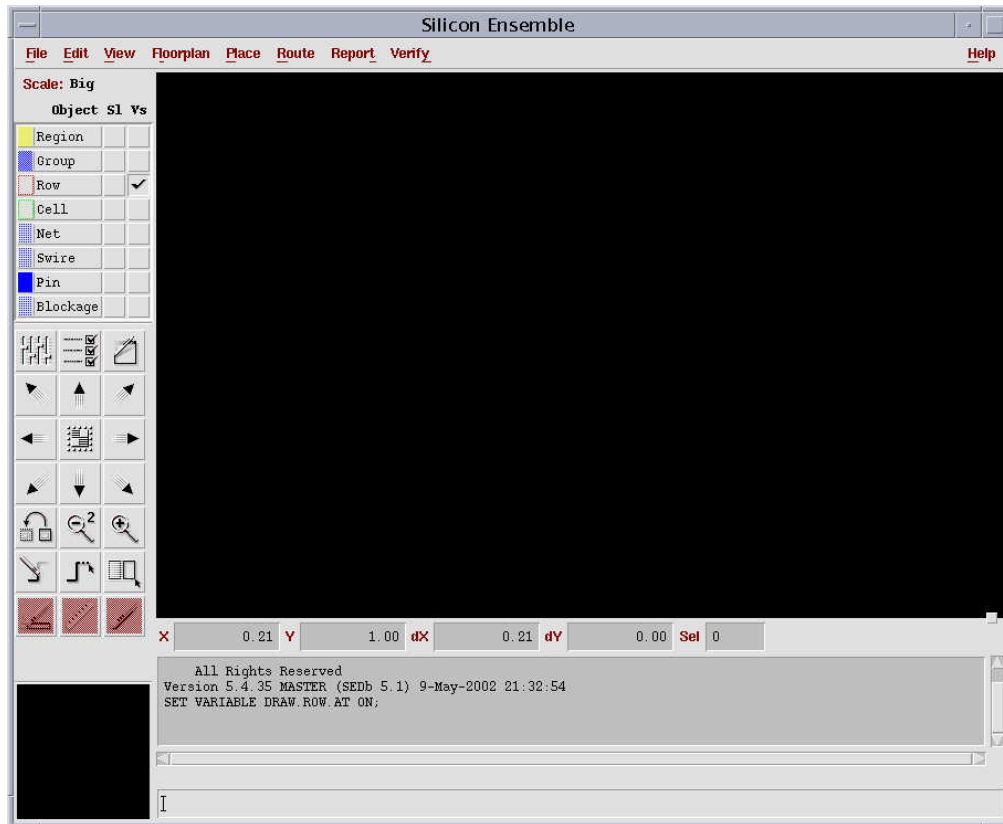

Figure 7-4 SE graphic interface.
1. Start SE with the command: **seultra -m=200&**. The SE window appears as shown in figure 7-4.